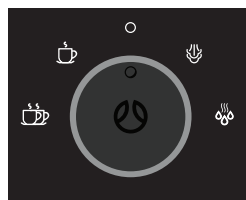

Fig. 10
8. Rotate the Dynamic Control Dial to Standby to turn off the Steam Wand (see Figure 10).